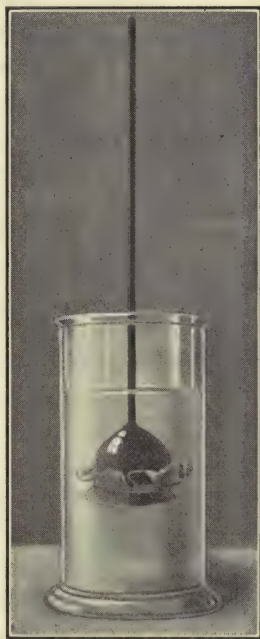

FIG. 307. — An experiment to illustrate osmosis.
**How the root hairs feed.** — When we examine a root hair, we find that it contains no visible pores through which water can enter. We know that water does pass through the root hairs, however, and a simple experiment will show how it enters. Fasten a soaked membrane, such as the bladder of a fish, or the skin of sausage, to the broad end of a thistle tube, and fill the bulb with sirup. Support the thistle tube in a jar of water in such a way that the sirup within the thistle tube is on a level with the water in the jar. (See Fig. 307.) In a few hours the sirup in the thistle tube rises above the level of the water outside. Water from the jar has passed through the membrane and has made a place for itself in the narrow tube. If the experiment is left standing for a long time, a little sirup may pass through the membrane into the water, but the amount is extremely small. The passage of liquids from one side of a membrane to the other is called osmosis.